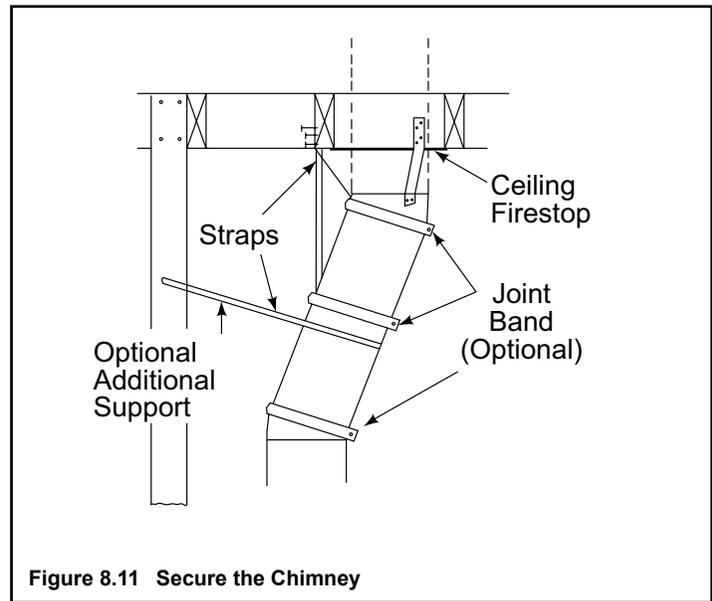

Figure 8.11 Secure the Chimney
When offsets and returns are joined to straight pipe sections, they must be locked into position with the screws provided\* (outer only), using the predrilled holes. To prevent gravity from pulling the chimney sections apart, the returns and the chimney stabilizers have hanger straps for securing these parts to joists or rafters. See Figure 8.11 on page 49.
- Refer to Figure 8.11.